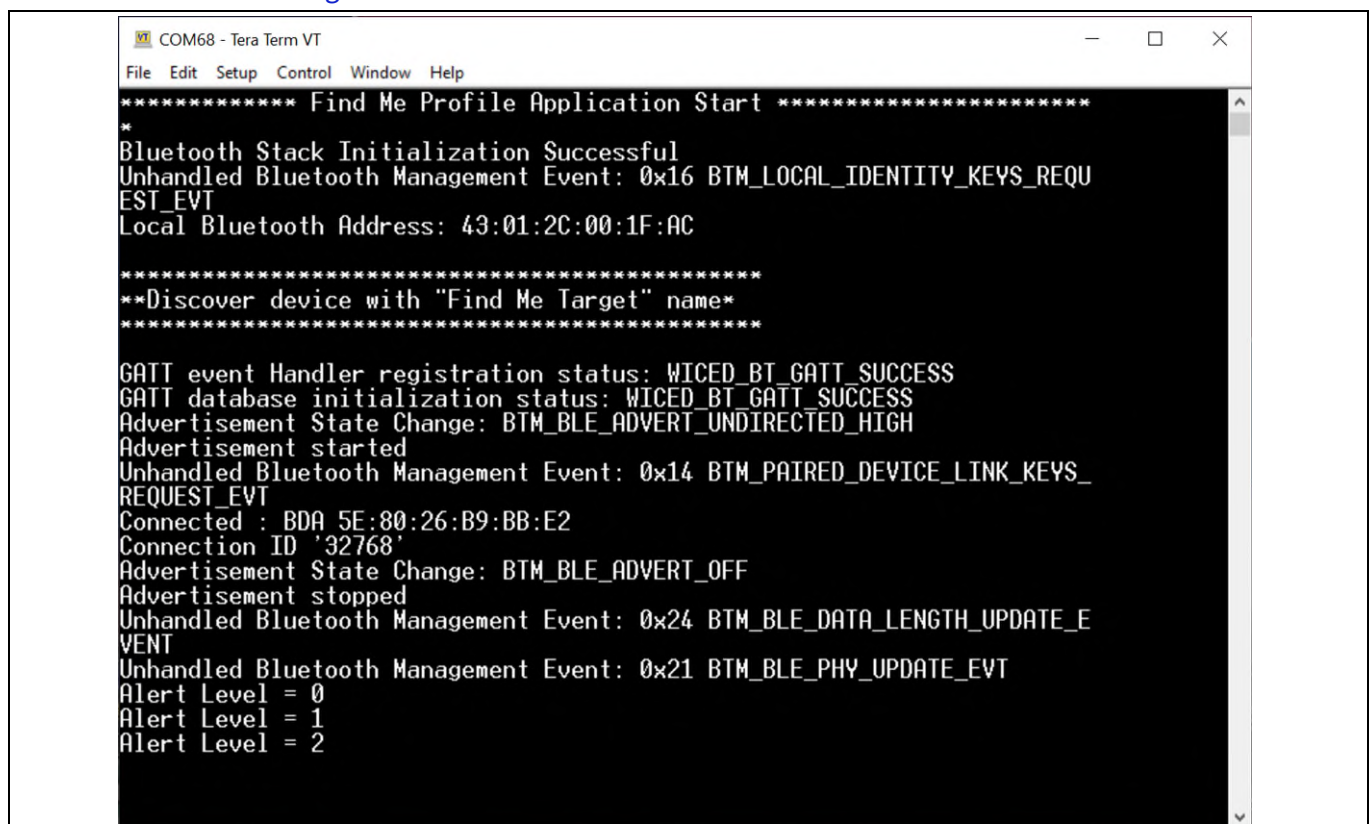

Figure 33 Log messages on USB – UART serial port
7. Use the USB – UART serial port to view the Bluetooth® stack and application trace messages in the terminal window as shown in Figure 33.